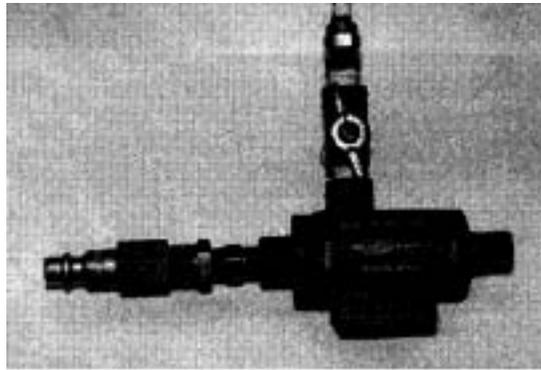

Figure 2—Vacuum transducer pump.
- Attach the quick-disconnect coupling to air supply port on the vacuum transducer pump using the 1/4" x 1/8" reducing nipple (see figure 2).